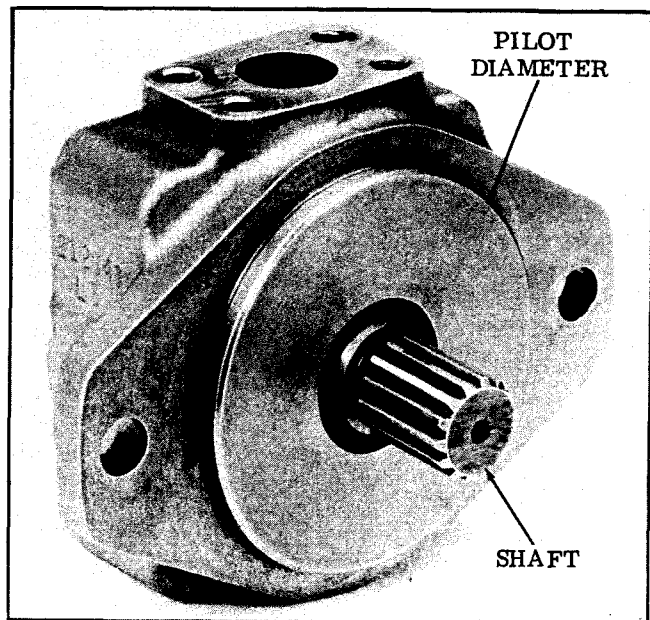

Figure 6 - Pilot Diameter
1. Direct Drive - A pilot on the pump mounting flange (Figure 6) assures correct mounting and shaft